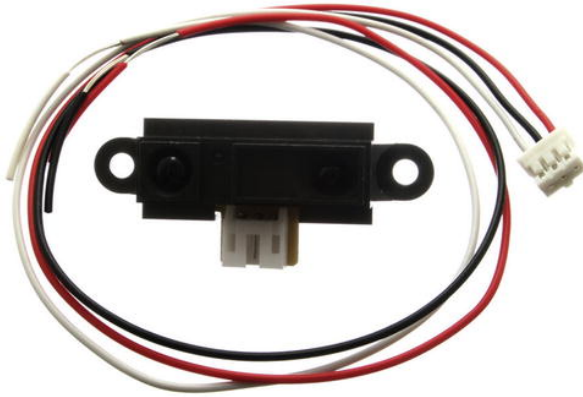

Figure 9-17. Infrared proximity sensor
An analog infrared (IR) distance sensor is a really simple component (Figure 9-17). It shines a beam of IR light from an LED and measures the intensity of light that is bounced back using a phototransistor. If you film this sensor with a cellphone or a camera and you look at the sensor through the screen, you will see the IR LEDs glowing.